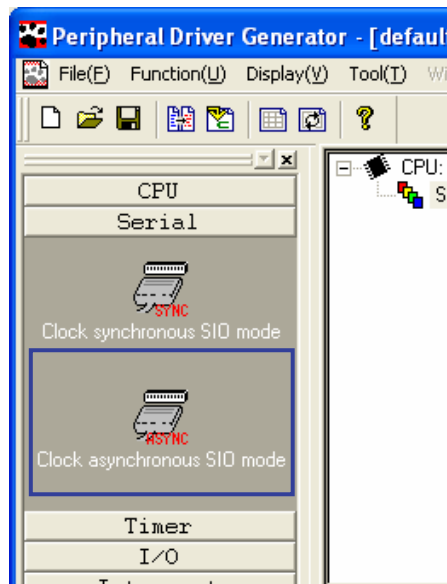

Figure 3.4-1 New Setup Pattern Creation Window
- [1] Click on the button (see Figure 3.4-1) corresponding to the peripheral I/O module to be controlled, or select [Function] -> [Serial, A/D, I/O, Timer, INT, or DTC] -> [Create New Setting] to select a mode.